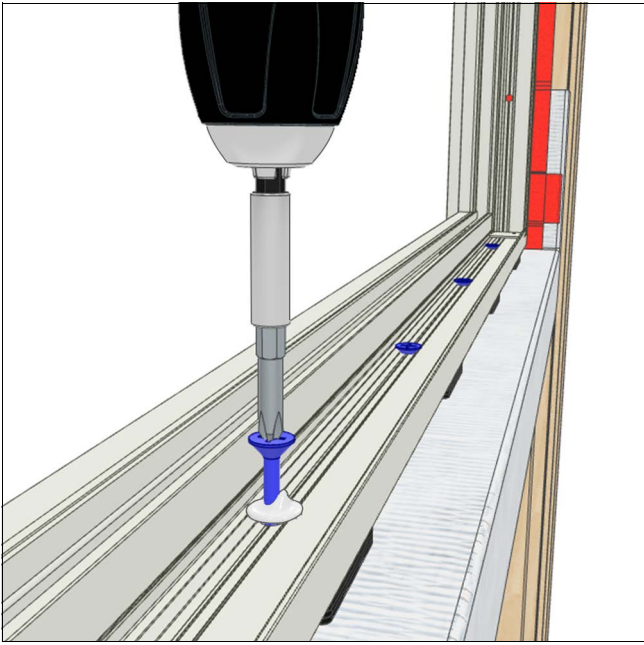

Figure 14
7. Fasten the unit into the opening through all installation holes using appropriate fasteners (See Typical Anchors on page 9.) See Figure 14.